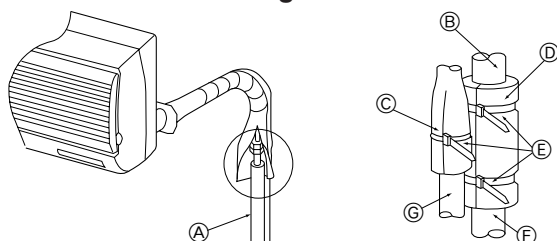

Fig. 4-4
- (A) Left-side piping
- (B) Lower piping
- (C) Right-side piping
- (D) Remote controller cable through hole
- (E) Corner box
4.3. Refrigerant piping (Fig. 4-4)